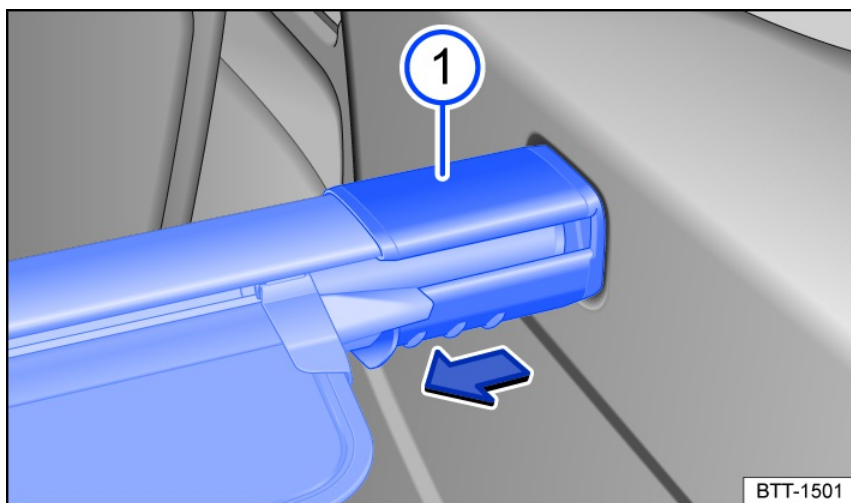

Fig. 157 In the luggage compartment: removing the luggage compartment cover.
2. Press the side panel on the luggage compartment cover *fig. 157* ① in the direction of the arrow and hold it in place.
3. Remove the luggage compartment cover upward and release the side panel *fig. 157* ①.
3. Guide the side panel *fig. 157* ① into the mount on the side trim panel.